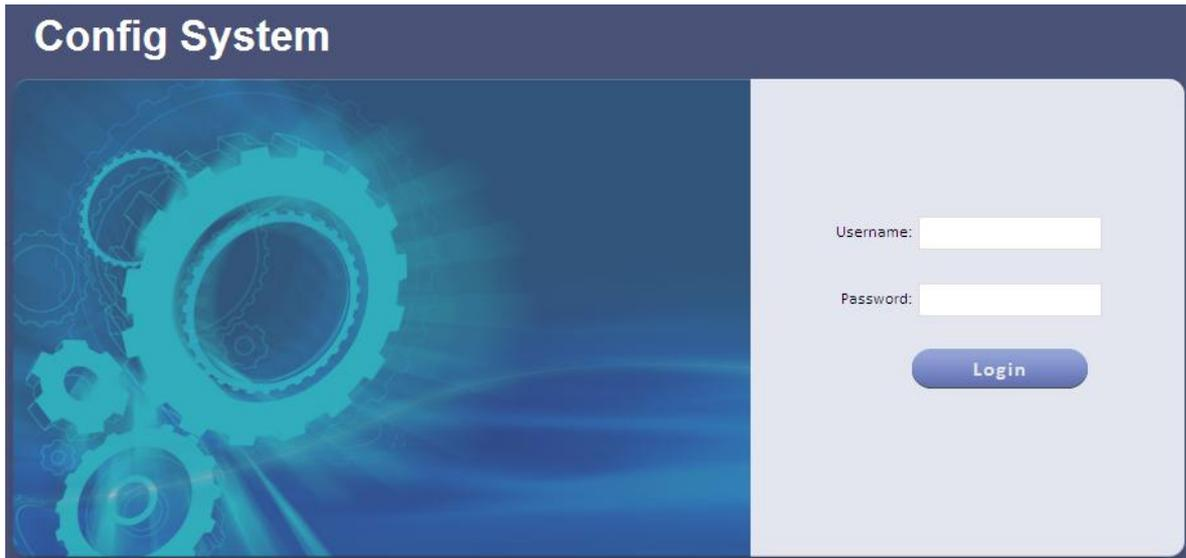

Figure 2- 4
- a) Please input the IP address you set in chapter 2.1 on the IE and then click Enter button. System pops up the following dialogue box. See Figure 2- 4.